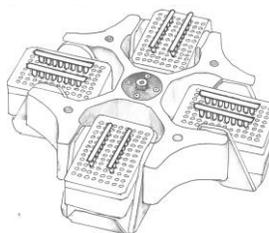

Fig 5
4.2 The 8-Column strips should be positioned in **D3→D10, E3→E10** direction as close to the center as possible, when placed in microplate carriers in rotors similar to snowflake rotors. (Fig 5)